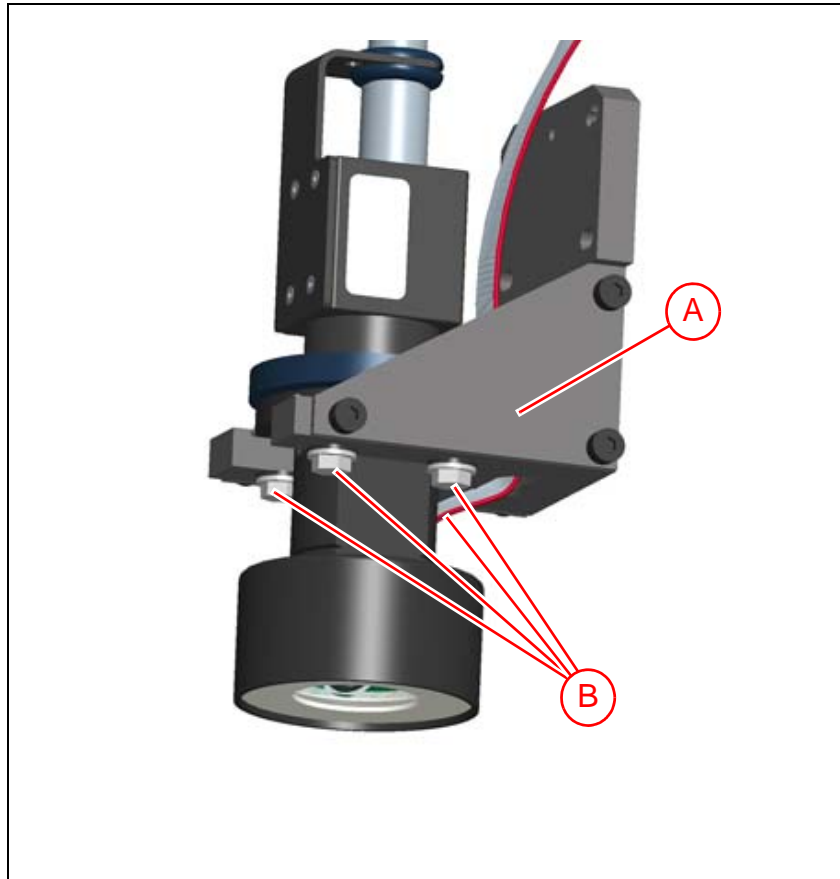

Figure 9-4. Adjust camera Y position.
5. Under the camera unit bracket ('A' in Figure 9-4) there are two locking screws on each side of the bracket ('B'). Slightly loosen these screws to adjust the camera's Y position.
7. Tighten the locking screws ('B' in Figure 9-4).